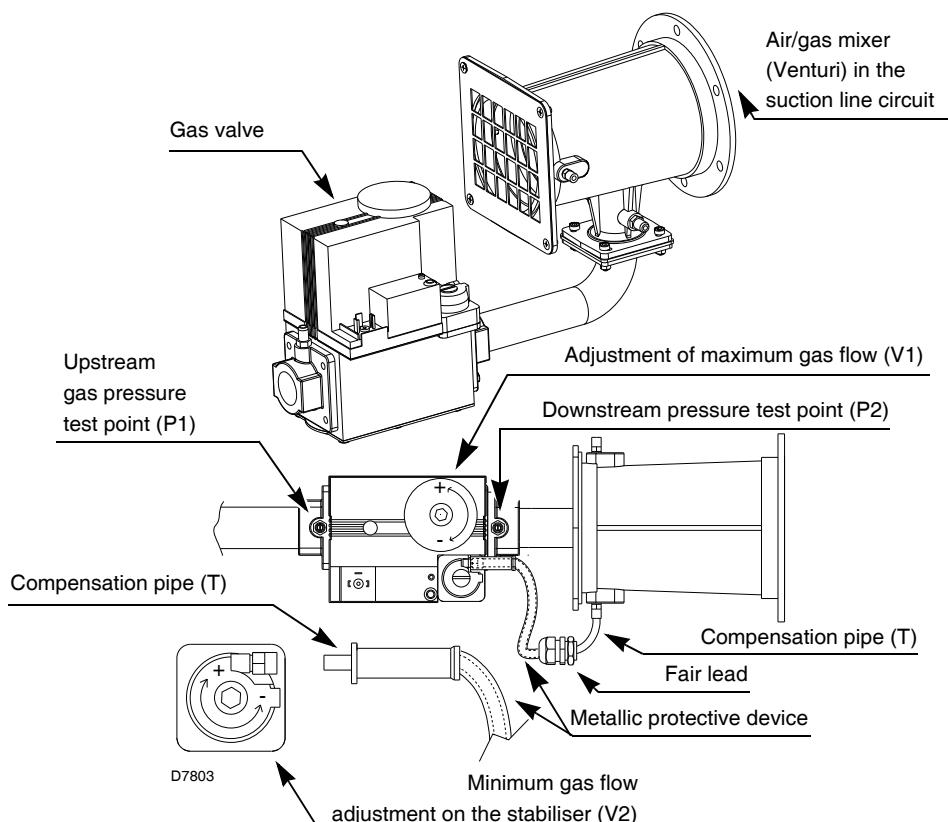

Fig. 10
- bleed the air from the gas pipes using the screw on the socket (Fig. 10 on page 12).